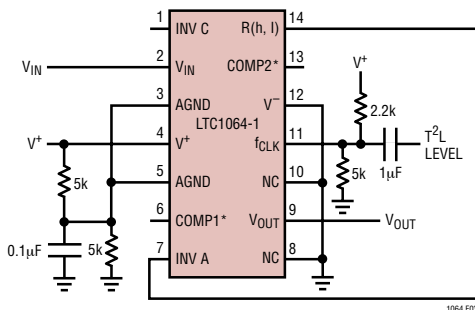

Figure 3. Level Shifting the Input T2L Clock for Single Supply Operation, V+ > 6V.
**fCLK (Pin 11):** For ±5V supplies the logic threshold level is 1.4V. For ±8V and 0V to 5V supplies the logic threshold levels are 2.2V and 3V respectively. The logic threshold levels vary ±100mV over the full military temperature range. The recommended duty cycle of the input clock is 50% although for clock frequencies below 500kHz the clock “on” time can be as low as 200ns. The maximum clock frequency for ±5V supplies is 4MHz. For ±7V supplies and above, the maximum clock frequency is 5MHz. Do not allow the clock levels to exceed the power supplies. For clock level shifting (see Figure 3).